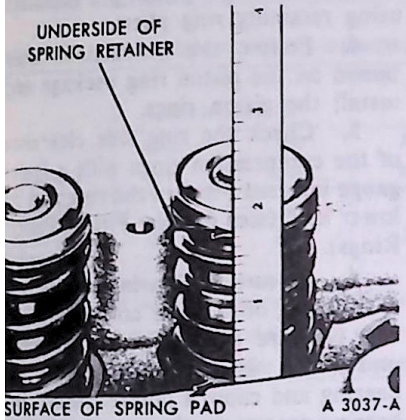

FIG. 38 Valve Spring Assembled Height
6. Measure the assembled height of the valve spring from the surface of the cylinder head spring pad to the underside of the spring retainer with a scale (Fig. 38).